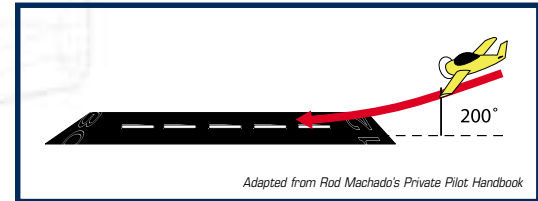

Figure 17-2
An ILS approach consists of a descent to a runway using both vertical and horizontal electronic guidance. It's accomplished by following two needles (Figure 17-1) located in the ILS display on your instrument panel. Unlike other instrument approaches, this one takes you down to a height known as decision height (DH). DH is approximately 200 feet above the runway elevation, as shown in Figure 17-2.
The glideslope is an electronic beam that's tilted upward at approximately a 3-degree angle (Figure 17-2). By centering the glideslope needle, shown in Figure 17-1 (position B), you're flying an obstruction-free path down towards the runway. How do you keep the glideslope needle centered? Fly towards it just like a localizer needle. If the needle swings upward, then fly upward; if it swings downward, then fly downward. The objective is to